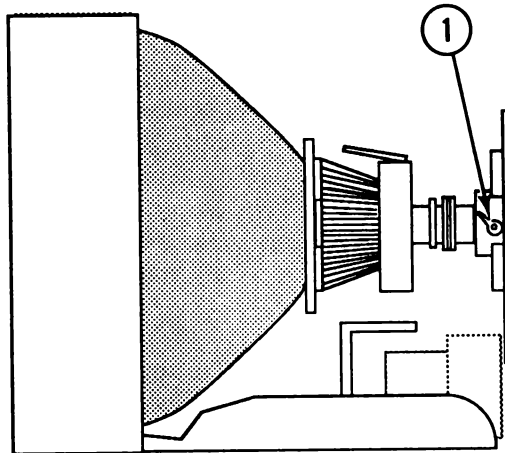

FIGURE 7
6. Position the SERVICE switch lever up (Figure 7, #1).
9. Set the SERVICE switch (Figure 7, #1) back to its normal position (down).